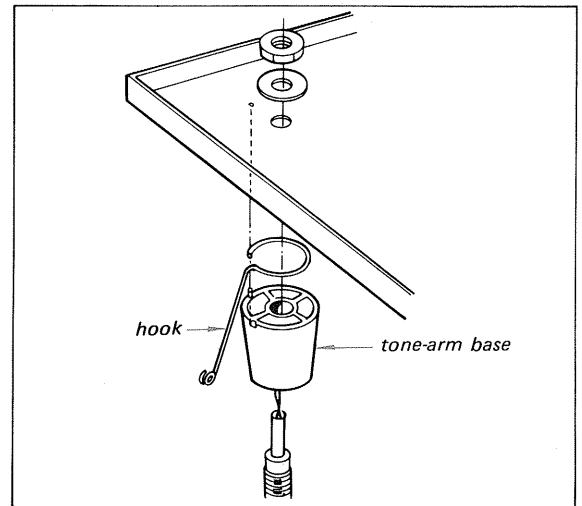

Fig. 2-13. Tone-arm base installation
10. Install the replacement tone-arm assembly. Note that the tab on the tone-arm base should be inserted in the small opening on the chassis as shown in Fig. 2-13 when installing the new tone-arm.